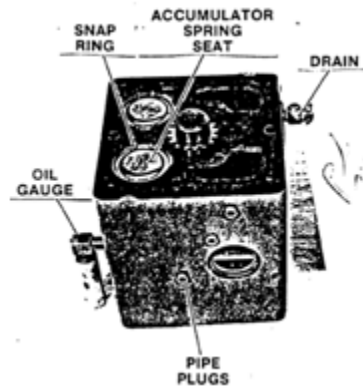
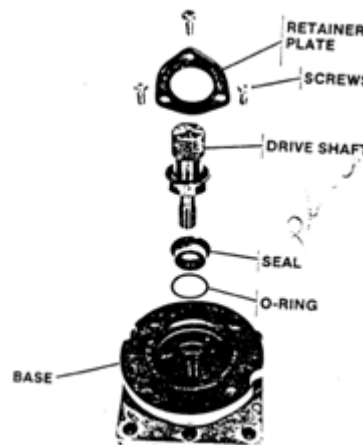

Figure 5-34. Power Case
Figure 5-35. Drive Shaft and Base
Power Case (Figure 5-34) and Base (Figure 5-35)
12. Replace bearing on driveshaft with a new bearing unless none is available and the old bearing is not damaged too badly. See Figure 5-35.